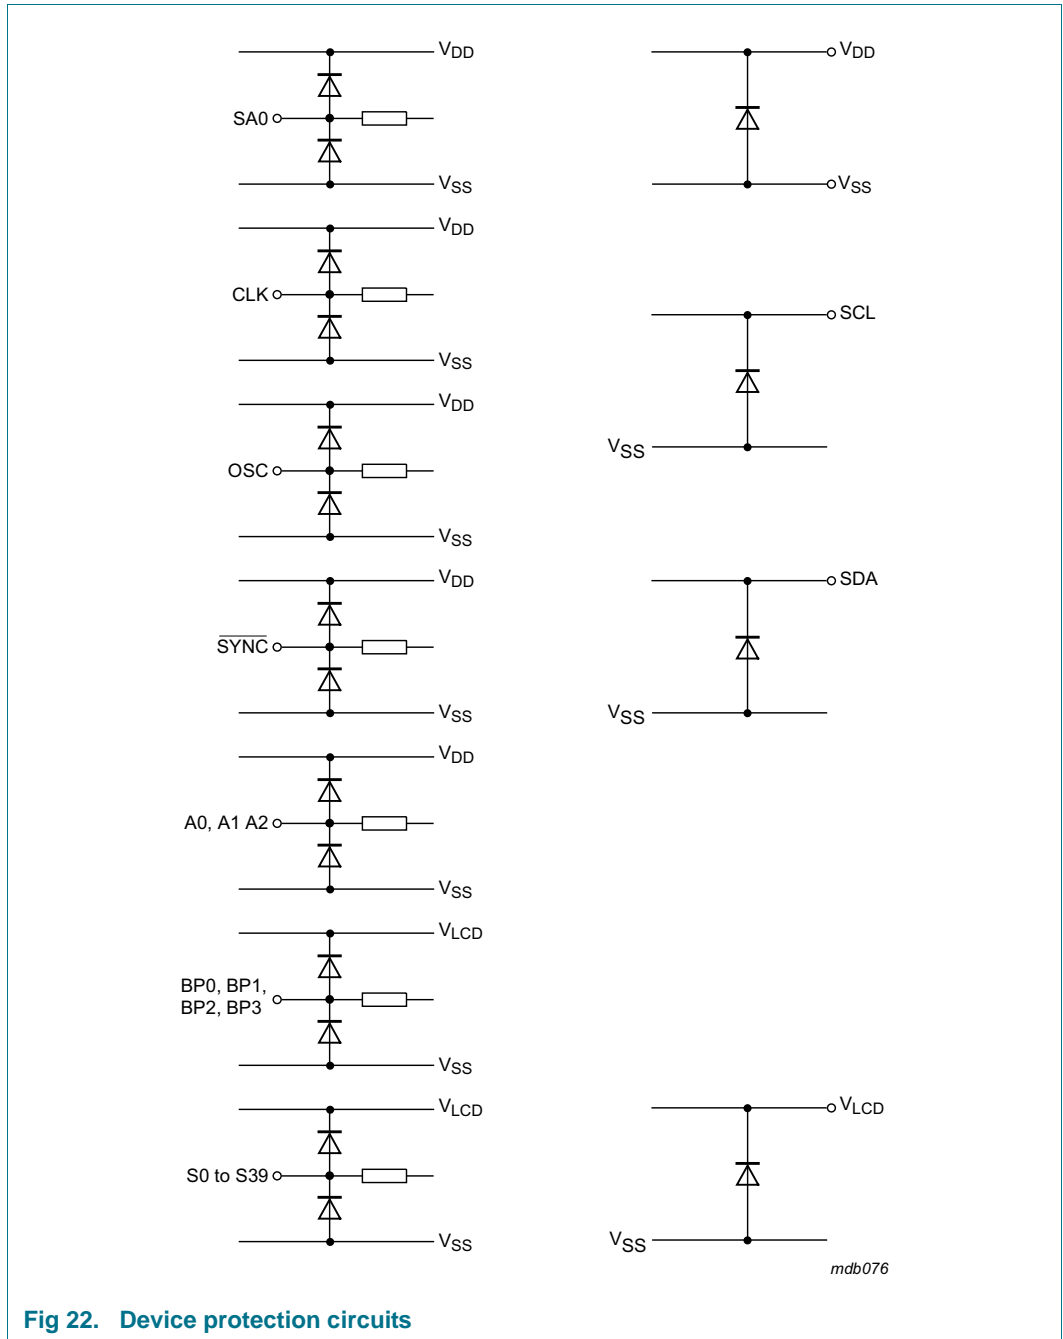

Fig 22. Device protection circuits
- [4] When tested, I2C pins SCL and SDA have no diode to  $V_{DD}$  and may be driven to the  $V_I$  limiting values given in Table 18 (see Figure 22 as well).